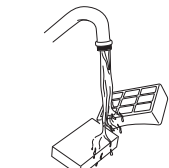

Fig. 23
- 3 Rinse the filter and frame thoroughly in lukewarm water until the water runs clear. (Fig. 23)